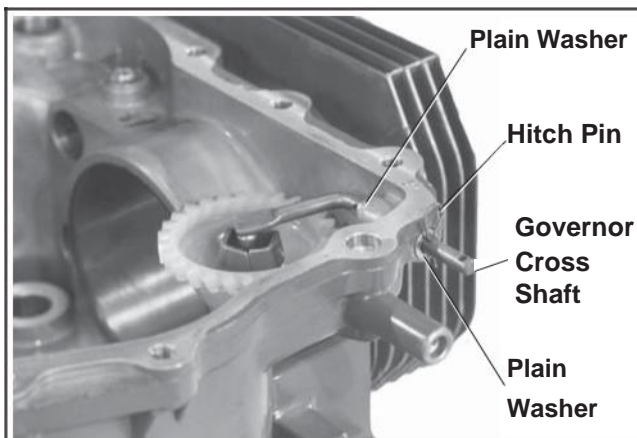

Figure 9-51. Removing Governor Cross Shaft.
1. Remove the hitch pin and plain washer from the governor cross shaft. See Figure 9-51.